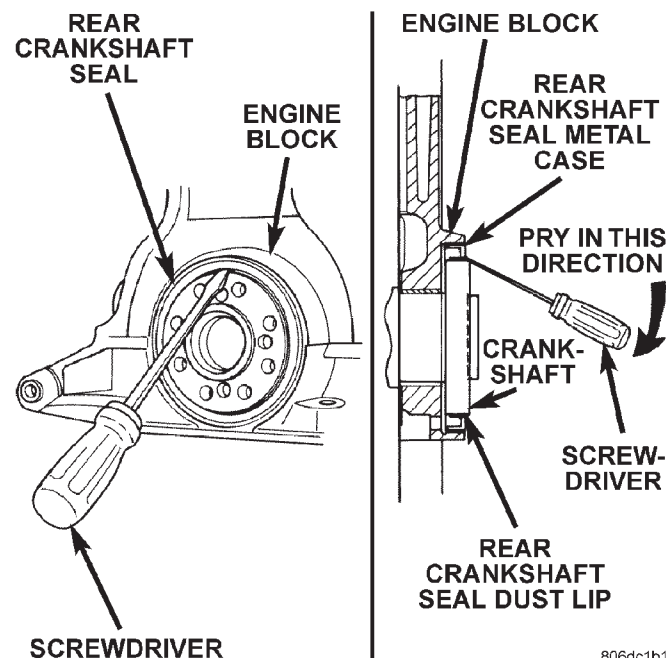

Fig. 75 Rear Crankshaft Oil Seal—Removal
(1) Insert a 3/16 flat bladed screwdriver between the dust lip and the metal case of the crankshaft seal. Angle the screwdriver (Fig. 75) through the dust lip against metal case of the seal. Pry out seal.